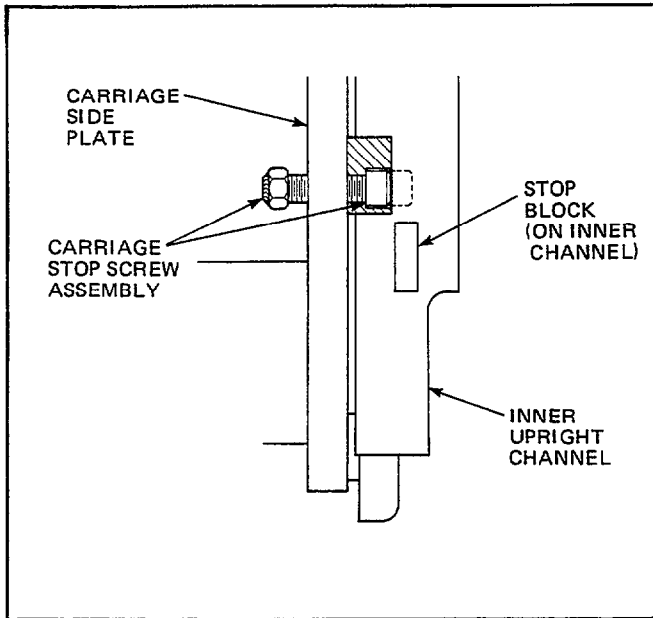

Figure 32. Carriage Stop Screw Assembly
- Unthread the two carriage stop screw assemblies. A stop screw assembly is comprised of a nut welded to a socket-head capscrew. See Figure 32. By backing out the nut that extends through the carriage side plate, the socket head of the screw will clear the stop block on the inner channel upright.
2. Make sure the carriage stop screw assemblies are retracted to clear the inner upright stop blocks. See Figure 32.